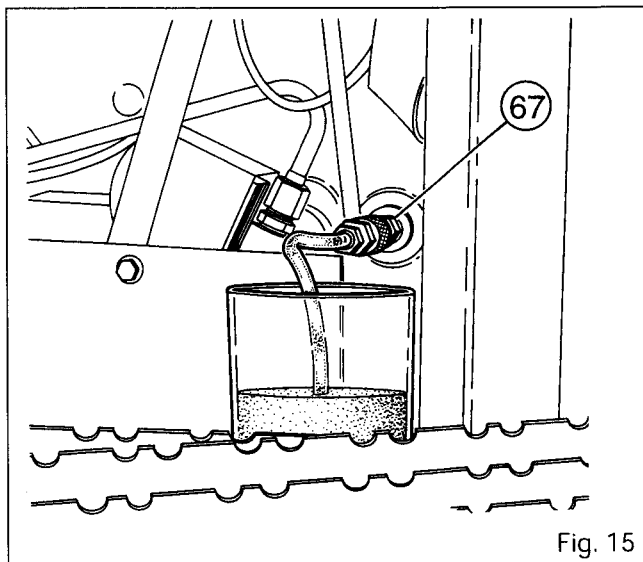

Fig. 15
71. Connect the union No 3582045M1 and its pipe on the bleed connector **(67)** as shown in Fig. 15.